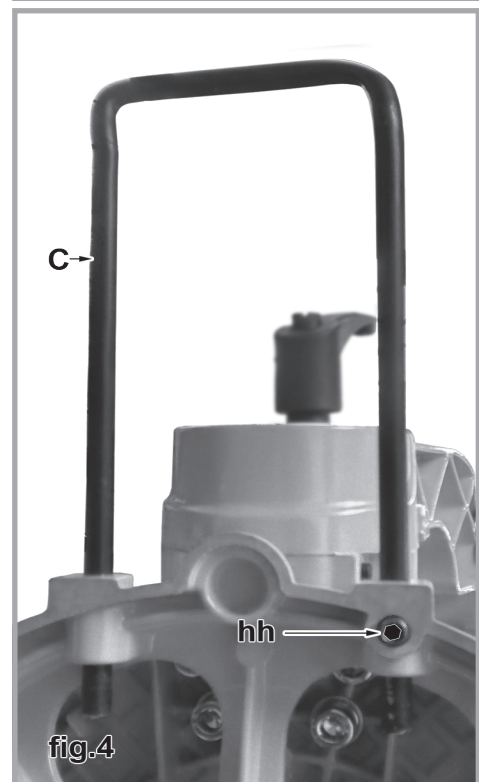

fig.4
2. The rear stabilizer is slid with the end curved downward into similar holes let into the table base at the back. It must be fastened in place by tightening a 4 mm hex set screw on the underside of the saw base (hh, fig.4).